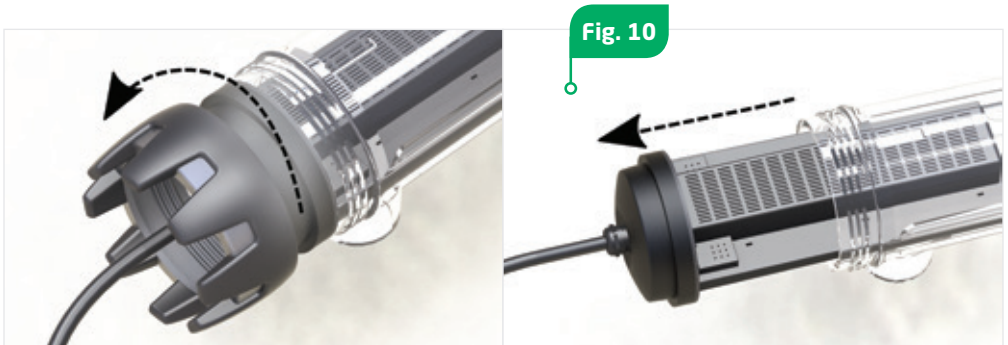

Fig. 10
4. Unscrew (anticlockwise) large threaded locking nut on the cell housing (Fig. 10).